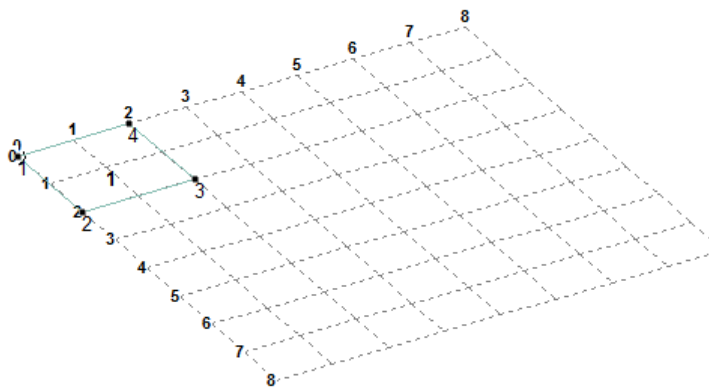

Figure 2-33 Plate 1 created
Step 7: Again, move the cursor in the negative Z direction and click at the coordinates (2,0,0); node 4 and plate 1 is created, as shown in Figure 2-33. Press the ESC key to exit the tool selection.